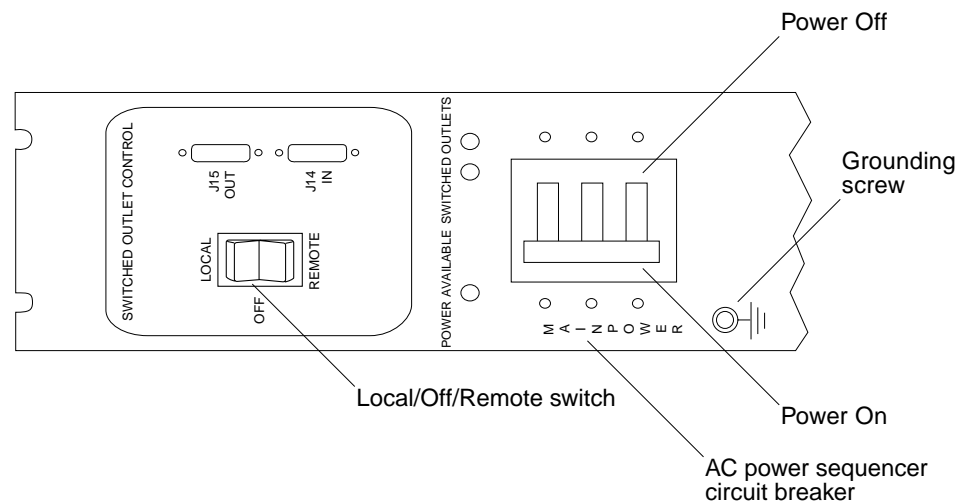

FIGURE 4-5 AC Power Sequencer Control Panel
3. At the bottom front and bottom back of the system, press the AC power sequencer circuit breakers to **Off** (FIGURE 4-5).
5. At the bottom front and bottom back of the system, press the Local/Off/Remote switch to **Local** (FIGURE 4-5).
6. At the bottom front and bottom back of the system, press the AC power sequencer circuit breakers to **On** (FIGURE 4-5).
3. **At the bottom front and bottom back of the system, press the AC power sequencer circuit breakers to Off (FIGURE 4-5).**